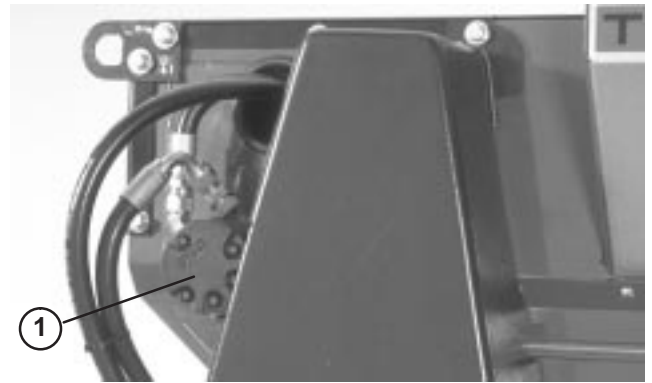

Figure 18
2. Loosen nuts securing brush motor (Fig. 18) to left side of machine.